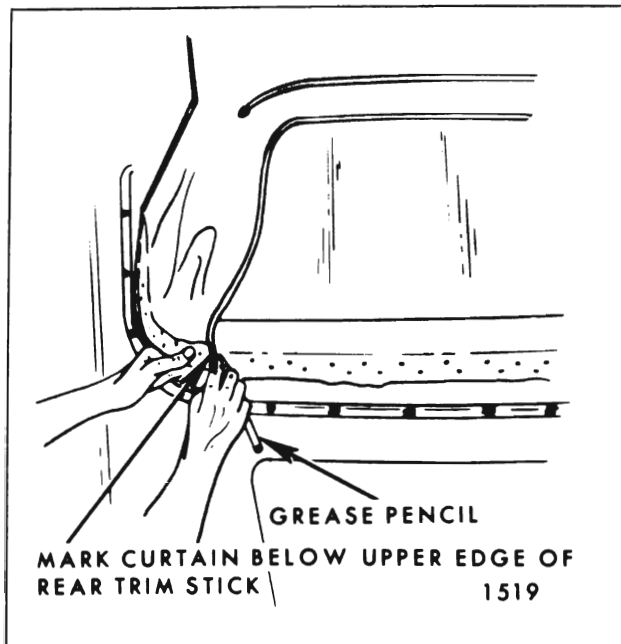

Fig. 13-48—Locating Edge Of Top Material
7. To establish relationship of right and left inner vertical edge of old top material to back curtain assembly at rear trim stick location, mark back curtain material at both locations with a grease pencil (Fig. 13-48). Reference marks should be transferred to new back curtain when step 3 of installation procedure is performed.